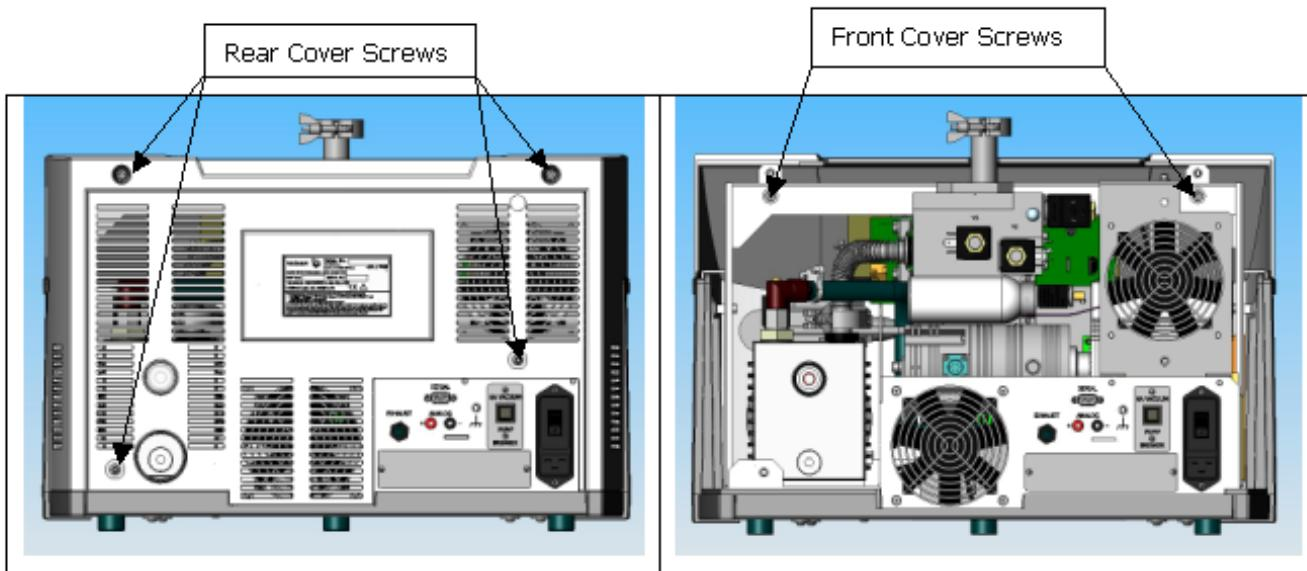

Figure 1: Rear and Front Cover Screws
3. Using an extended length M5 Allen wrench, remove the four screws holding the rear plastic cover (Figure 1: Rear and Front Cover Screws) and detach the rear plastic cover from the unit.